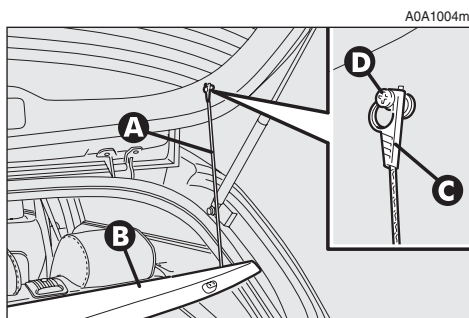

fig. 20
- free the ends of the two rods (**A-fig. 20**) supporting the parcel shelf (**B**) pulling the eyelets (**C**) off the pins (**D**);